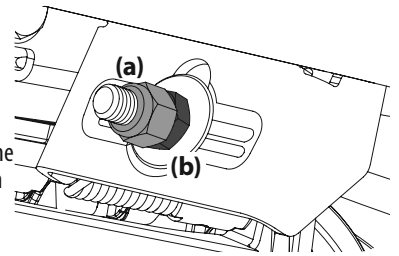

Figure 36
5. To raise the front of the deck, remove the end cap, loosen the outer jam nut (a) then tighten (thread inward) the inner nut (b) against the front hanger bracket. See Figure 36. When proper adjustment is achieved, re-tighten the outer jam nut (a) and replace the end cap.
6. To lower the front of the deck, remove the end cap, loosen the outer jam nut (a) then loosen (thread outward) the inner nut (b), away from the front hanger bracket. See Figure 36. When proper adjustment is achieved, re-tighten the outer jam nut (a) to 57 ft-lbs. (77.28 N-m) and replace the end cap.